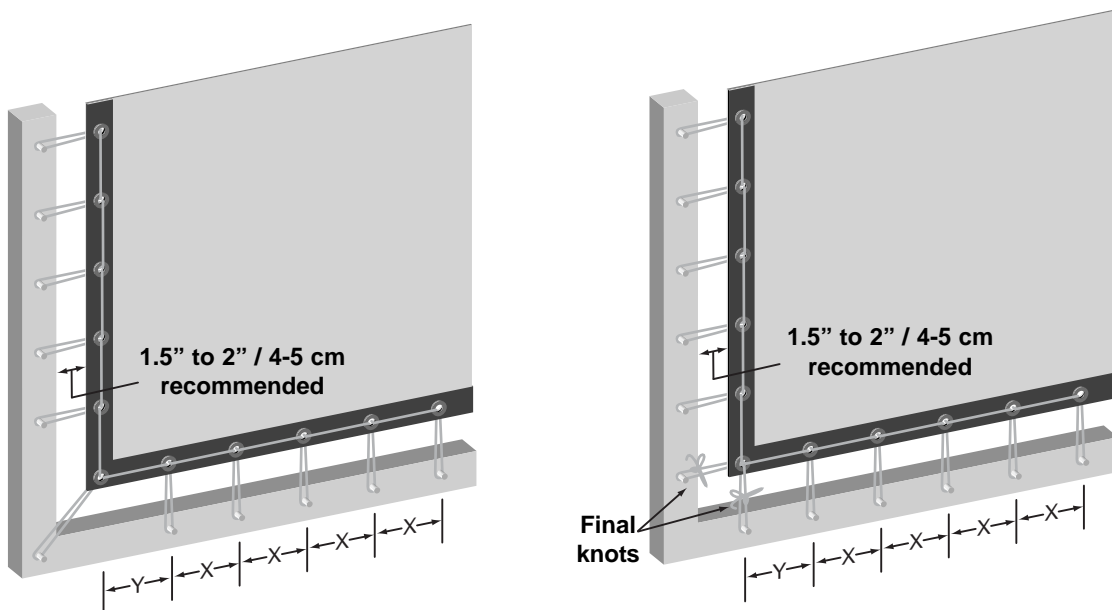

Figure 18. Proper methods of T-lacing
1. Using the lace cord provided, lace the screen corner into pegs at the top left, and continue along the top towards the center using the T-lace method. Refer to Figures 18 and 19. The screen center line is marked with a red grommet at the frame center. Continue unrolling towards audience right. Make sure that the screen is centered in the frame.